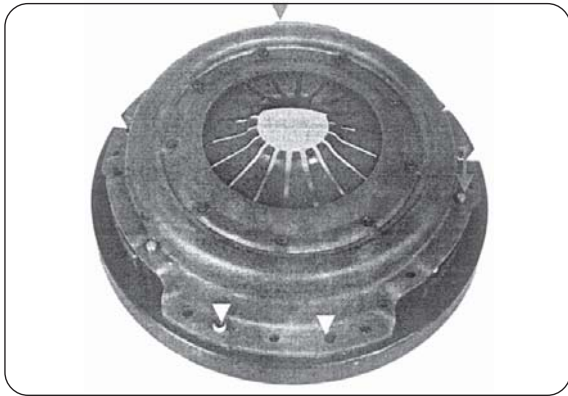

Fig. 13
13. Cover the mounting holes locations are marked thus (fig.13).